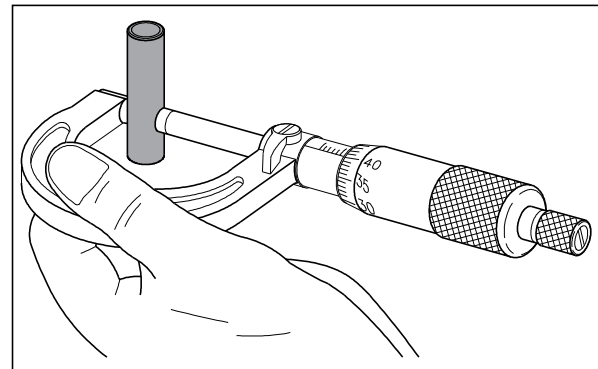

Fig. 3.96
- Check the piston pin OD using a micrometer. (Fig. 3.96) If the reading less than the service limit replace the pin piston. Other wise the pin may create unwanted noise.